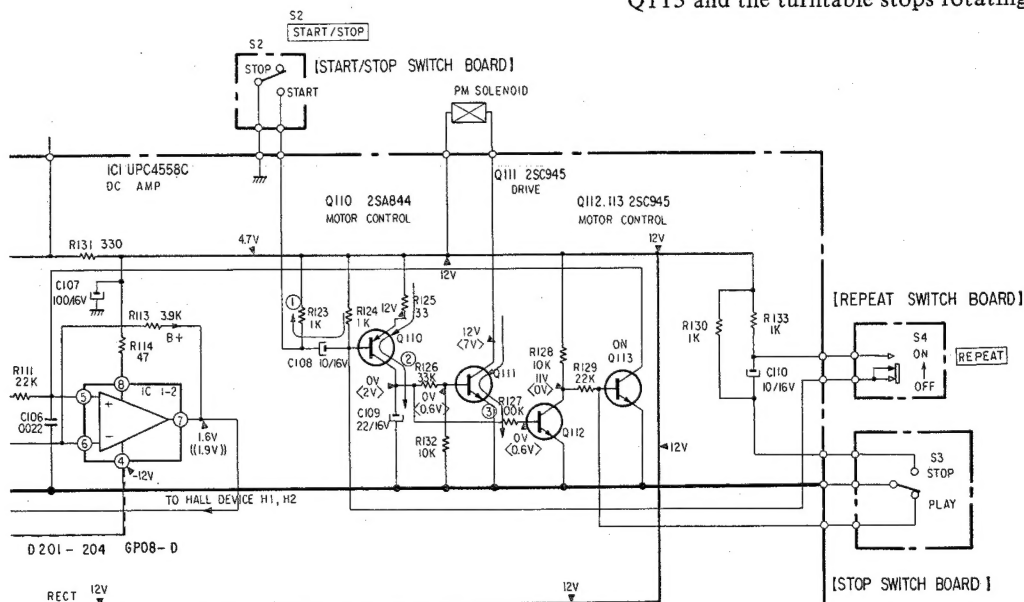

Fig. 1-16
2. STOP Operation (See Fig. 1-16)
- When the START/STOP switch (S2) is pushed during play, Q110 and Q111 conduct for a moment. This activates the solenoid (PM).